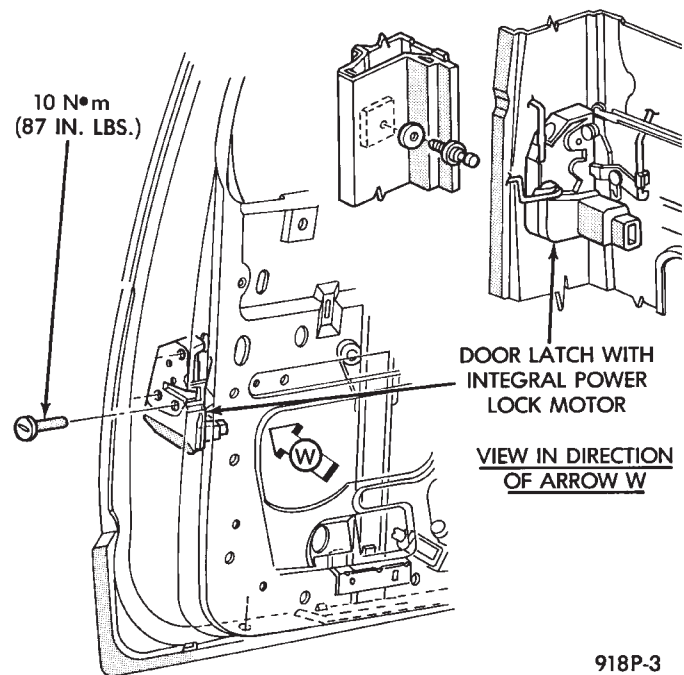

Fig. 5 Front Door Assembly
(1) Remove inside door release handle, window regulator handle and door trim panel.
(2) Roll door watershield away from lower rear corner of door to reveal inside panel access opening.
(3) Disconnect latch links and remove door latch with integral lock motor (Fig. 5).
(4) Disconnect motor from wiring harness.
(5) Remove motor mounting bracket screws and remove motor assembly from mounting.